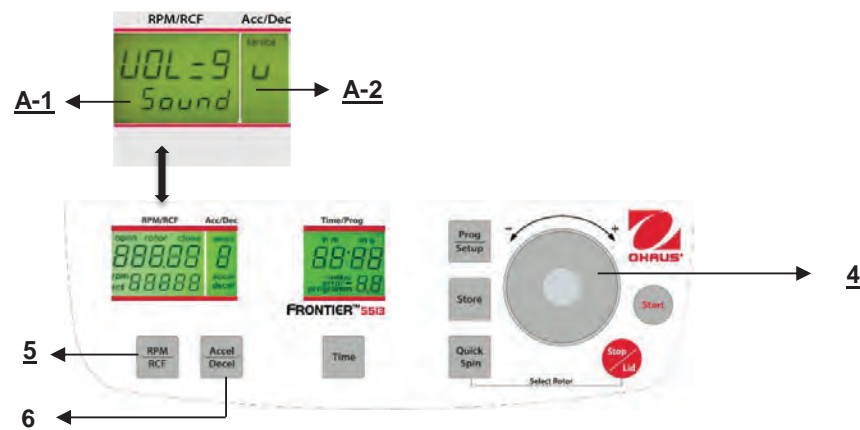

Figure. 31
Proceed as described under point 4.1.2 to enter this program mode and then press the key "**Accel/Decel**" (6). In the display "**Acc/Dec**" (A-2) the word "**Service**" flashes. Now select the letter "**U**" with the adjusting dial (4). As a result, in the display "**RPM/RCF**" (A-1) the words "**Vol=0- 9/Sound**" appear. After pressing the key "**RPM/RCF**" (5), you can adjust the desired volume between 0 (low) and 9 (loud) with the adjusting dial (4) (See figure 31).